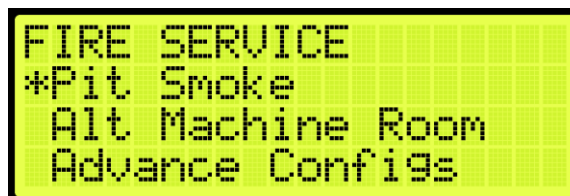

Figure 557: FIRE SERVICE Menu – PIT Smoke
- From the FIRE SERVICE menu, scroll and select PIT Smoke (See Figure 557).
2. From the FIRE SERVICE menu, scroll and select PIT Smoke (See Figure 557).